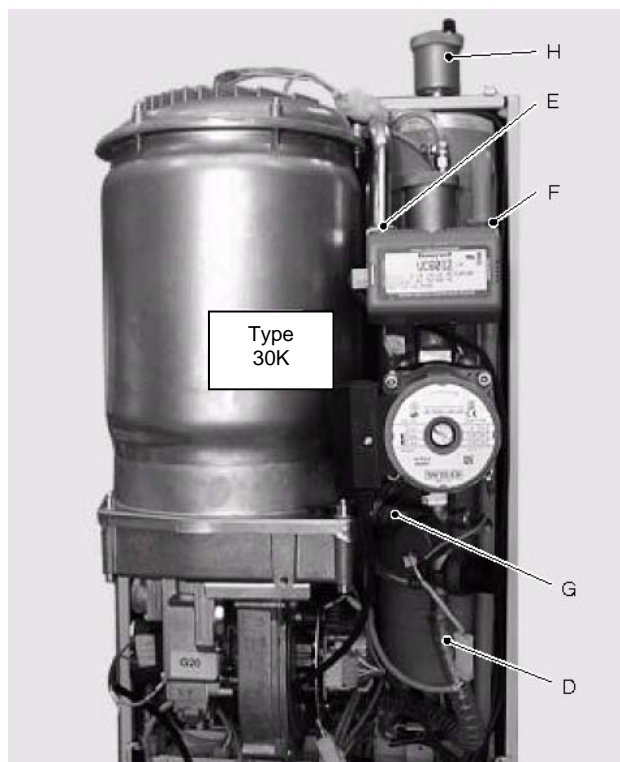

Fig. 33
- 9 Disconnect the pipe D (Fig. 33).
- 10 Completely unscrew the connections E, F and G (Fig. 33) and remove the complete hydraulic group.